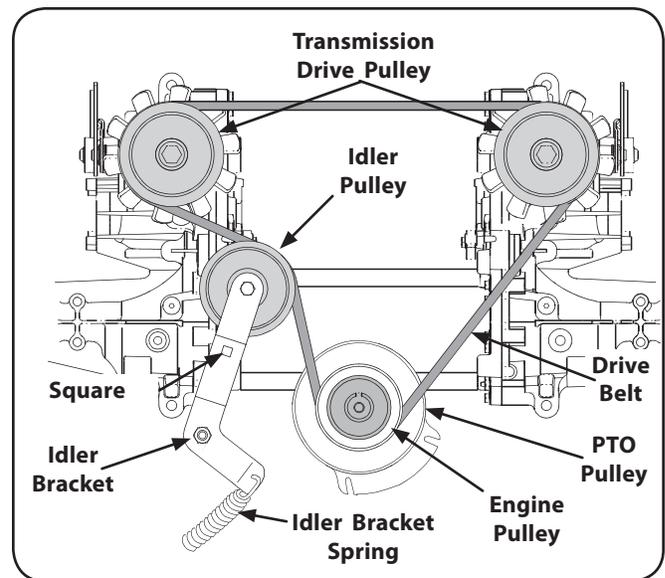

Figure 7-8
2. From beneath the rear of the tractor, insert a $\frac{3}{8}$ " drive ratchet into the square hole of the drive idler bracket. See Figure 7-8.